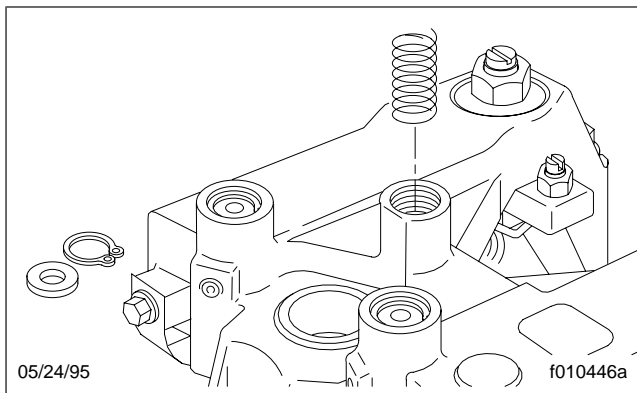

Fig. 2, Remove the Spring
3. Remove the cover and spring. See Fig. 2.